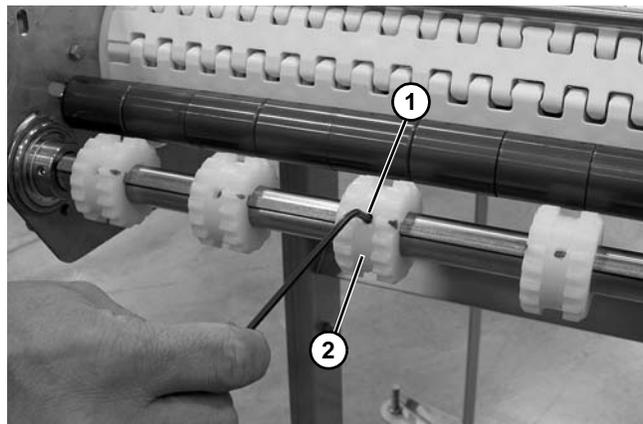

Figure 65
14. Loosen set screw (**Figure 65, item 1**) on drive sprocket (**Figure 65, item 2**).